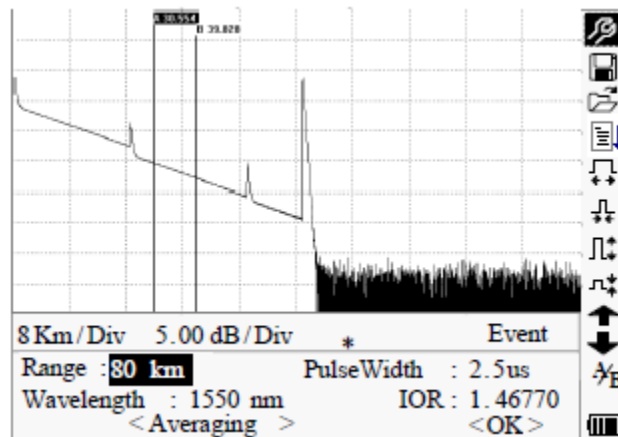

Figure 4-8. Real-time Testing
- Use [◀] and [▶] to toggle between the parameters to be changed (Figure 4-8), and then press [Enter].